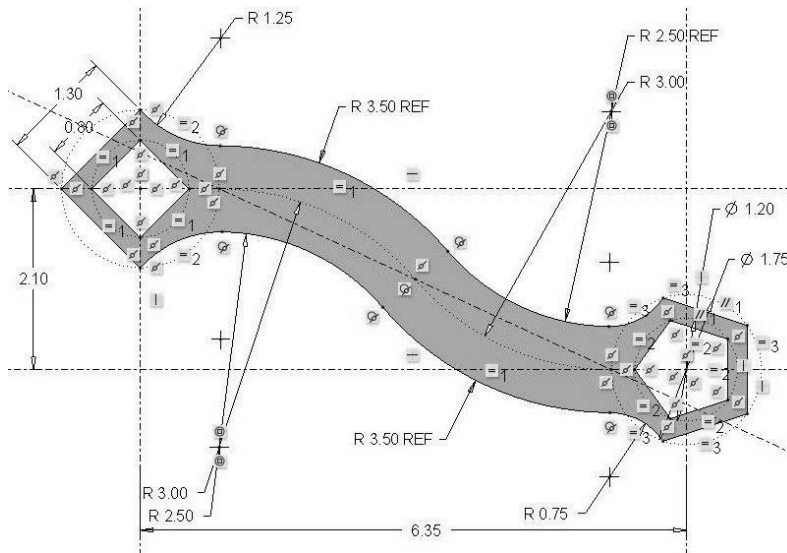

Figure 3-80 Problem 11—Special S Wrench
3.11 Challenge problem - Draw the "Special_S-wrench" (Figure 3-80). Design Intent — All arcs are tangent to each other and the edges of the two end shapes. The diamond shape is 1.30 inches per side. The outer pentagon fits inside a circle of 1.75 inches in diameter. The inner pentagon uses a 1.20-inch diameter circle. The 3-inch radius centerline is tangent at both ends and at its midpoint. The tangent points for the outer arcs are directly above and below the tangent point for the centerline arc. (>File>Options>Sketcher, change to 2 decimal places before sketching. *Pick OK.*)